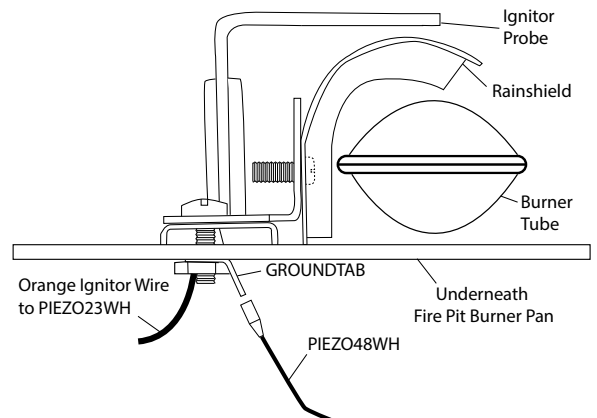

Fig. 11 Installing ground tab to pan/disc.
NOTE: If the screws from the probe assembly will not slide through the holes easily you can use the existing thread cutting screws removed from the metal cover in step 1. If you are using the screws and nuts from the probe assembly then temporarily secure one screw with one of the nuts previously removed. Ensure the assembly sits flat against the fire pit pan (See Fig. 11).
Step 3: Install the Ground Tab on the remaining screw (without nut) and secure. See Fig 11. **NOTE:** If you used the thread cutting screws to secure the probe assembly then secure the ground tab in any existing drain hole in the pan.
CAUTION: Ensure the probes are not touching the rainshield or the Piezo will not spark at the tip of the probes. If necessary you can adjust the rainshield by loosening the screw inside the rainshield bracket, pushing it down and re-tightening the screw. Fig.11 shows proper spacing of probe to rainshield